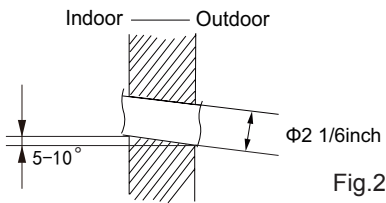

Fig.2
(2) Open a piping hole with the diameter of Φ2 1/6inch on the selected outlet pipe position. In order to drain smoothly, slant the piping hole on the wall slightly downward to the outdoor side with the gradient of 5-10°. (As show in Fig.2)